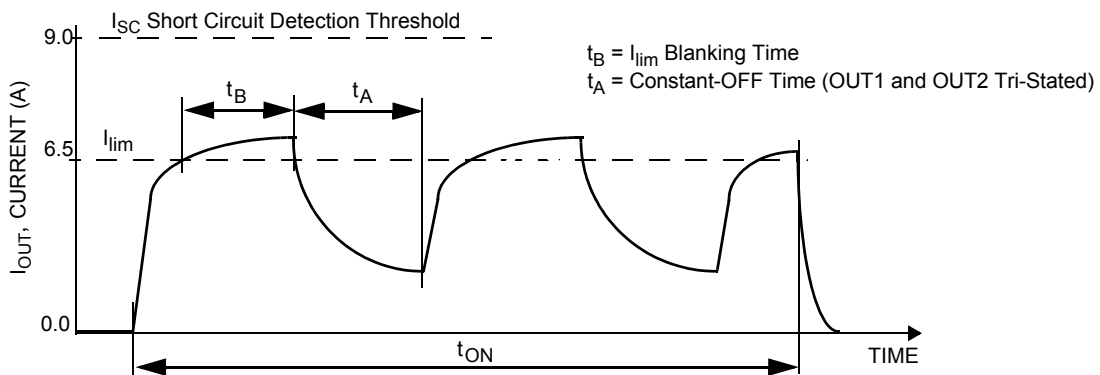
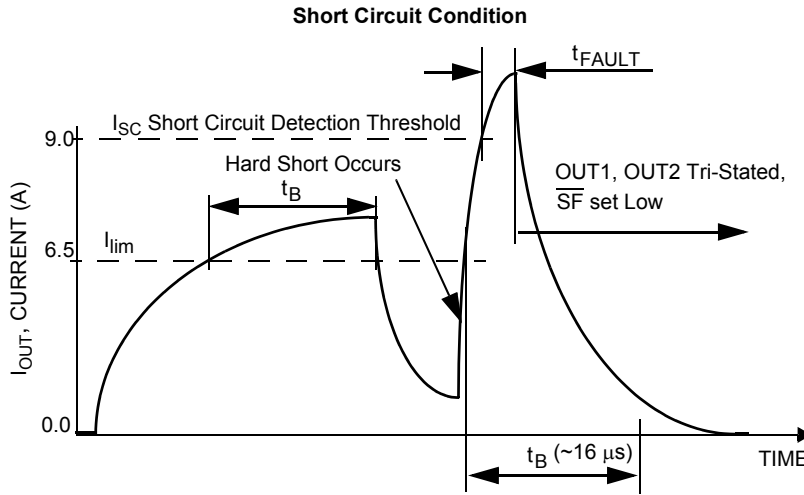
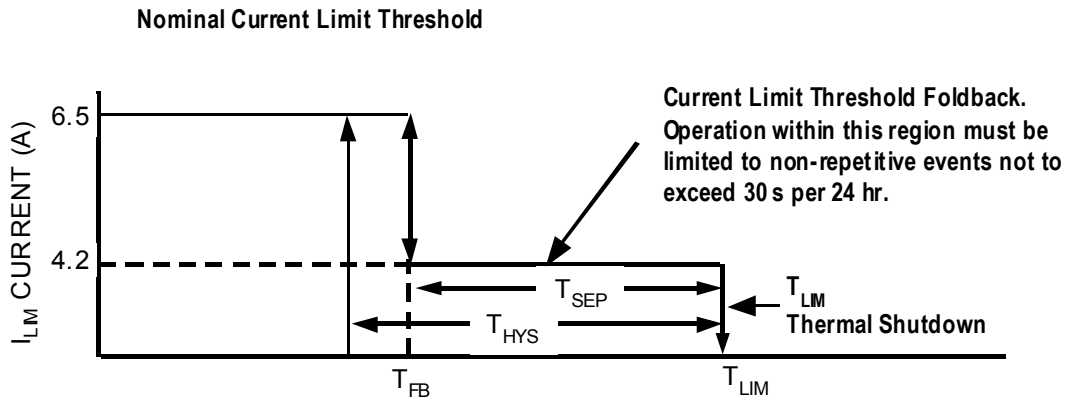

Figure 7. Current Limit Blanking Time and Constant-OFF Time
Figure 8. Short-circuit Detection Turn-OFF Time t_{FAULT}
Figure 9. Output Current Limiting Foldback Region
- Load currents ramping up to the current regulation threshold become limited at the I_{LIM} value (see Figure 7). The short-circuit currents possess a di/dt that ramps up to the I_{SCH} or I_{SCL} threshold during the I_{LIM} blanking time, registering as a short-circuit event detection and causing the shutdown circuitry to force the output into an immediate tri-state latch-OFF (see Figure 8). Operation in Current Limit mode may cause junction temperatures to rise. Junction temperatures above $\sim 160^\circ\text{C}$ will cause the output current limit threshold to “fold back”, or decrease, until $\sim 175^\circ\text{C}$ is reached, after which the T_{LIM} thermal latch-OFF will occur. Permissible operation within this fold back region is limited to non-repetitive transient events of duration not to exceed 30 seconds (see Figure 9).